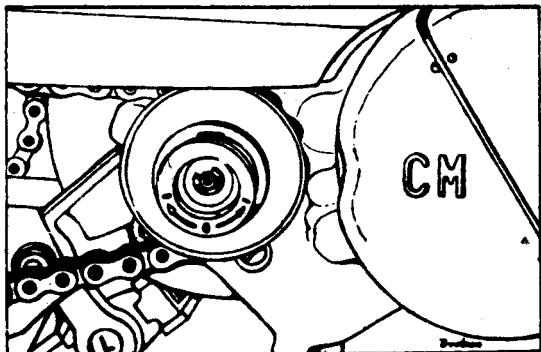

Fig. 9 — Engine drive disengaging mechanism
- h) Engine drive disengaging mechanism (Fig. 9)
If you intend to use the moped as a bicycle, (after using up the fuel) pull the driving lug (in the direction away from the engine) and rotate it 90 degrees clockwise or counter clockwise, and then release it (Fig.9). The driving lug will remain engaged in this position and the drive is not transmitted from the engine to the rear wheel.